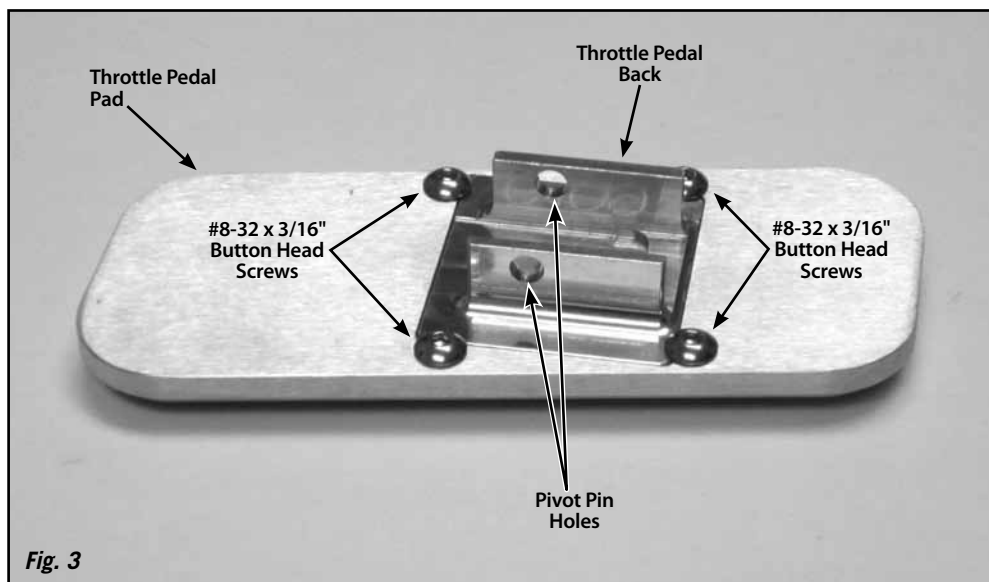

Fig. 3
Step 2: Install the new throttle pedal pad onto the throttle pedal back using the #8-32 x 3/16" button head screws. The throttle pedal back will be positioned with the pivot pin holes closest to the center of the pad. **Fig. 3**